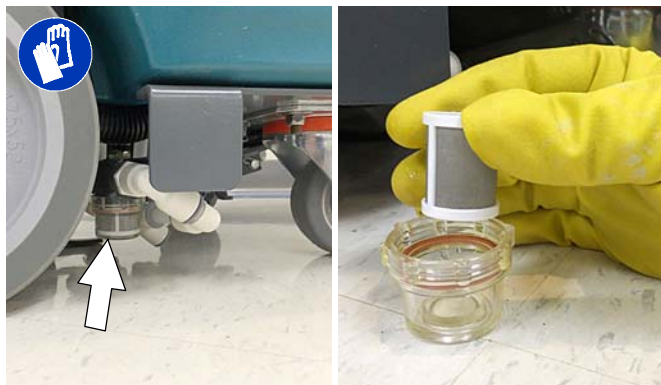

FIG. 111
- 1. Drain solution tank. Remove the solution tank filter and clean screen (Figure 111). Turn the filter bowl counter-clockwise to remove.